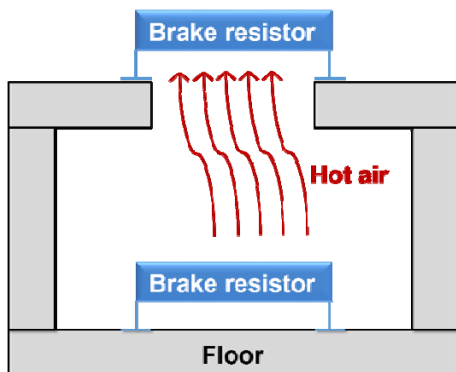

Fig 7-9.
- Do not install brake resistors on another brake resistor or above any emission of hot air. (See Fig. 7-9)